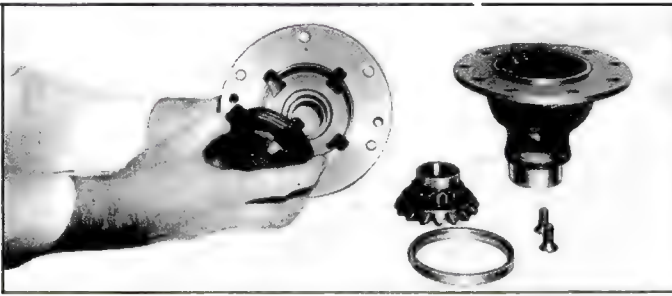

Fig. 57—Installing Clutch Pack
1. Lightly oil clutch plates and side gear, and install clutch pack in differential as follows (fig. 57):